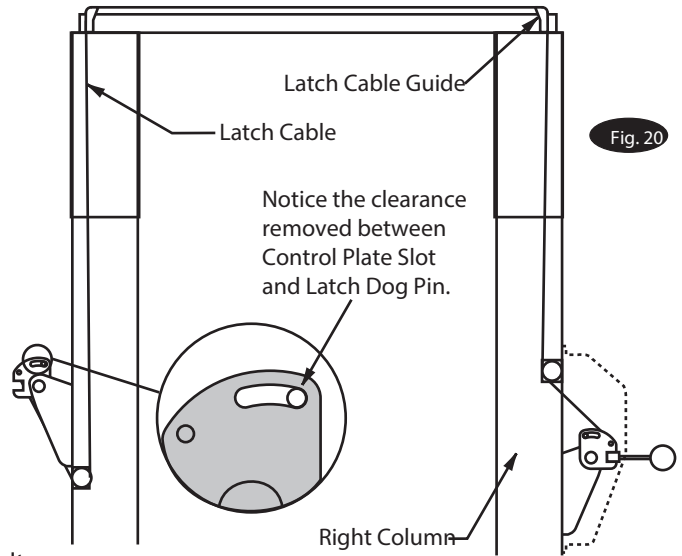
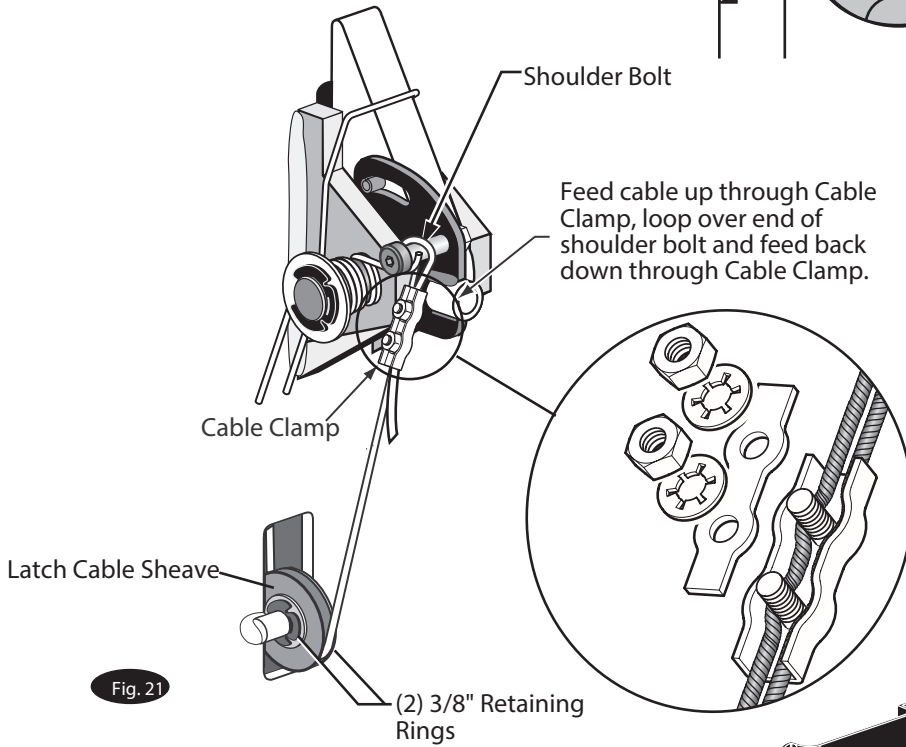

Fig. 20
Fig. 21
- E) Route cable up inside column and through the latch cable guide, Fig. 18a & Fig. 20.
- F) Continue routing cable to the left column latch cable guide, Fig. 18a & Fig. 20, routing the cable through the left column latch cable guide, Fig. 18a.
- G) Bring the cable down inside the left column and feed the end of the cable through the lower latch cable sheave slot so that the cable is now back outside the column, Fig. 21.
- H) Route cable under the bottom side of the latch cable sheave, Fig. 21.
- J) Insert cable in cable clamp along one side, loop around shoulder screw and back down, inserting cable along other side of cable clamp, Fig. 21. Place top back on clamp, barely tightening.
- K) Next, pull the control plate down, Fig. 20 & Fig. 21, to eliminate any clearance between the control plate slot and the latch dog pin, Fig. 20.